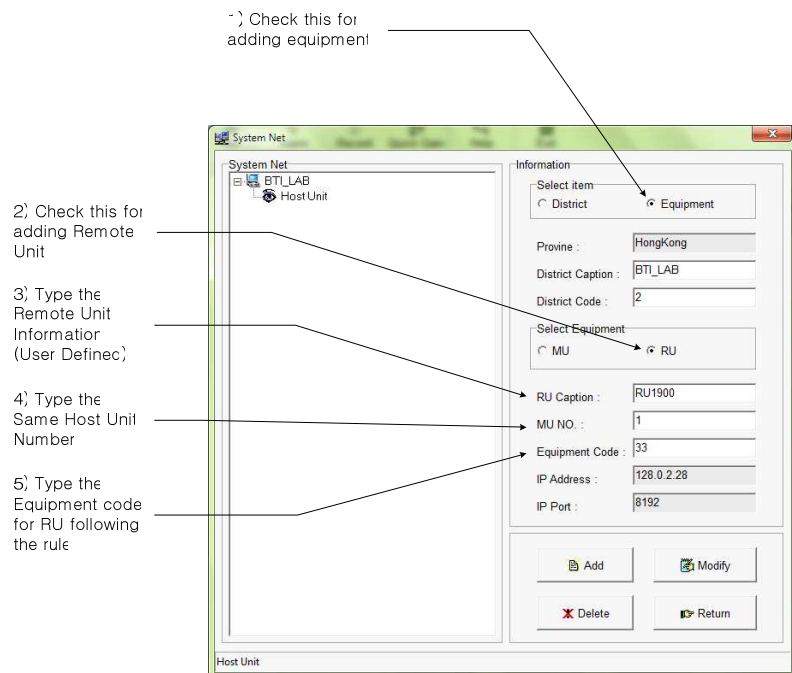

Figure 3-10. Add the Remote Unit below the Host Unit Tree
7. After adding Host Unit, Remote units are required to add in the system configuration with same way for adding HU, as shown in Figure 3-10.